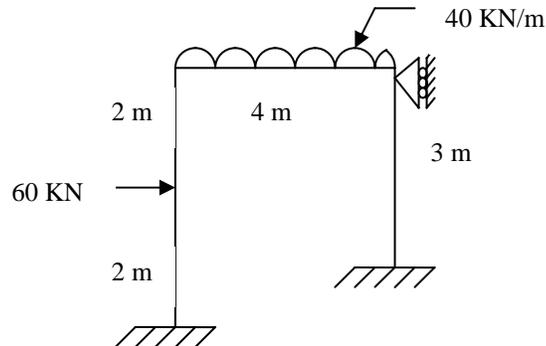

Fig.4
- (b) Develop the displacement matrix and find the system stiffness matrix. Using that structure stiffness method, find the element forces of the plane frame shown in fig.4. Draw BMD and assume EI as constant. Assume axial deformations are negligible.